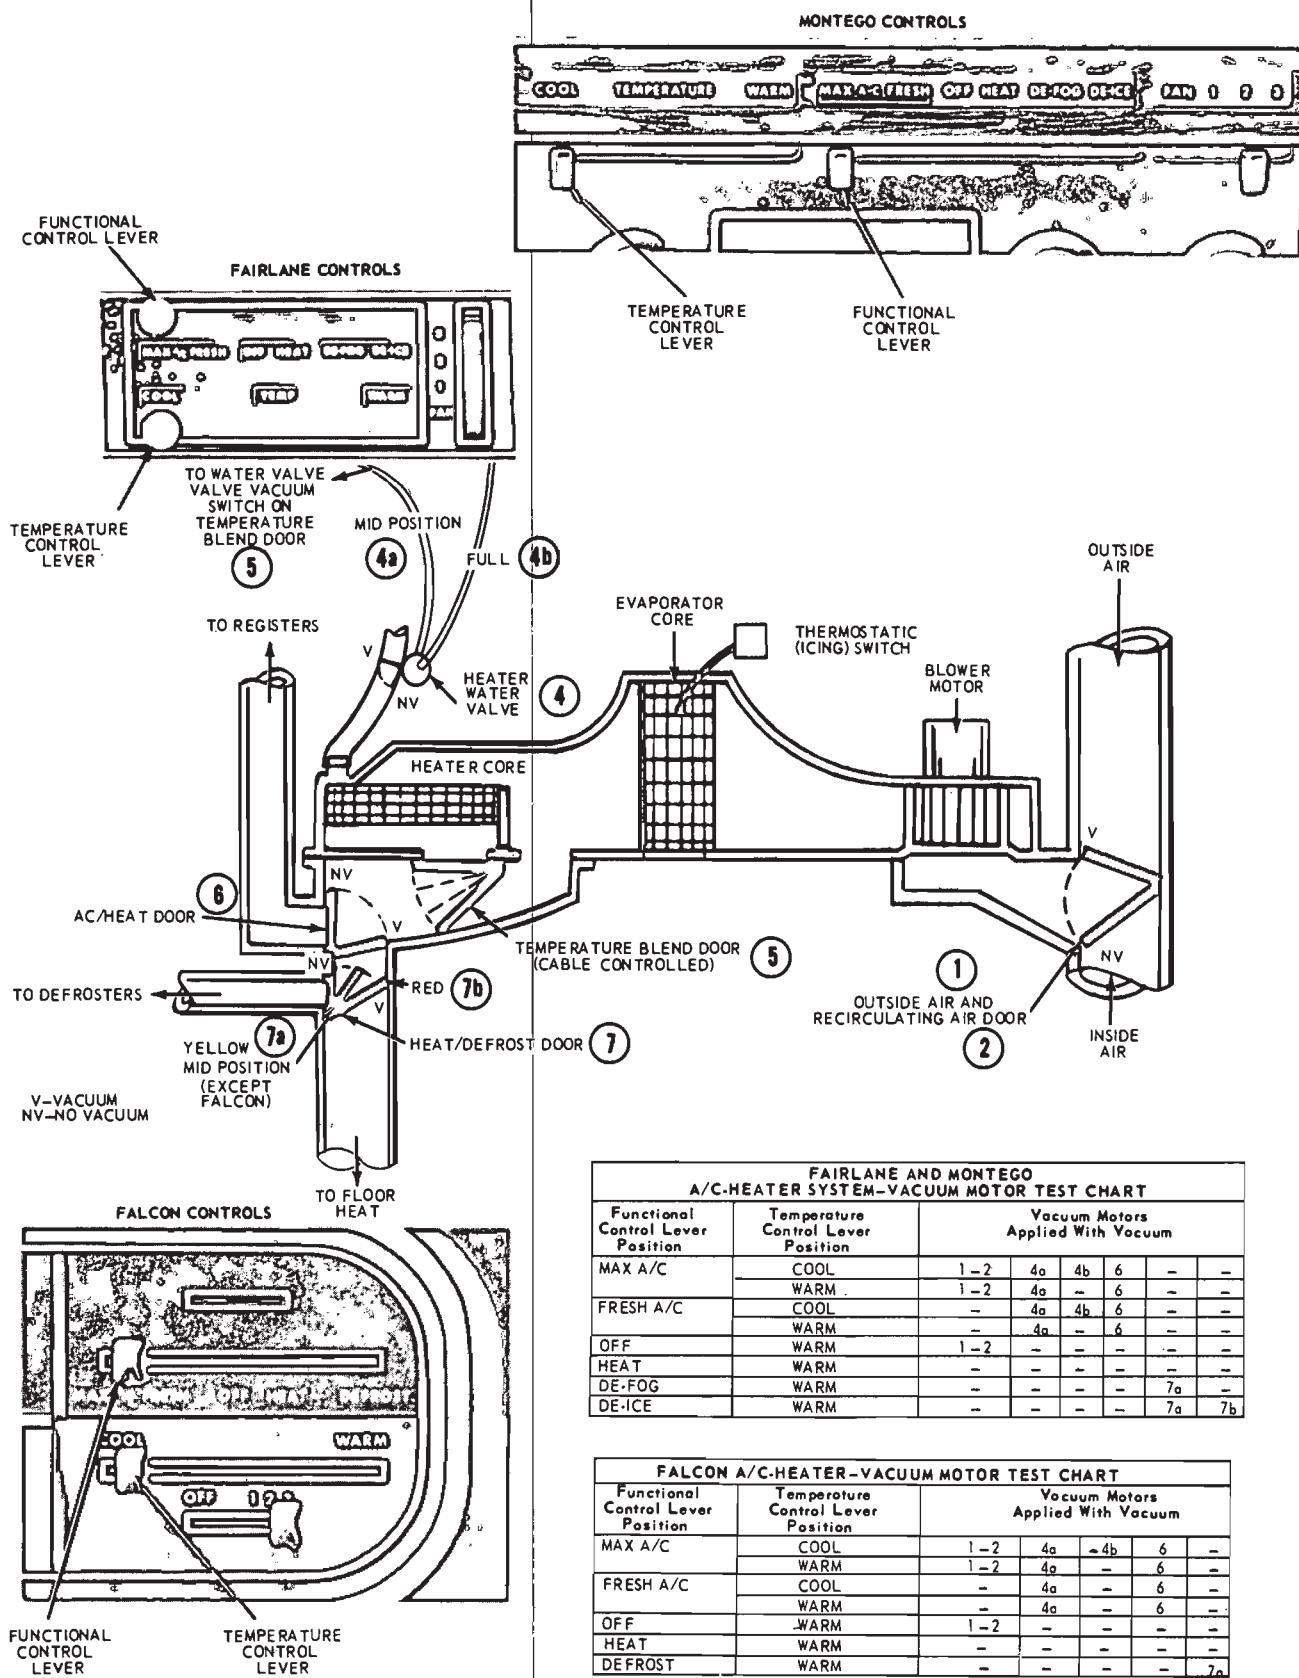

FIG. 9—Falcon, Fairlane, and Montego Control Setting Vacuum Motor Application Chart
cool to warm, a cable moves the temperature blend door (5) from maximum cooling position to minimum cooling position. With the functional control lever in either A/C position, the heater water valve (4) is closed. A vacuum switch on the evaporator case is actuated to supply vacuum to close the heater water valve (4) when the temperature lever is in the maximum cool setting and the functional control lever is in either A/C position. Refer to the A/C-Heater Control Setting Chart, Fig. 9.